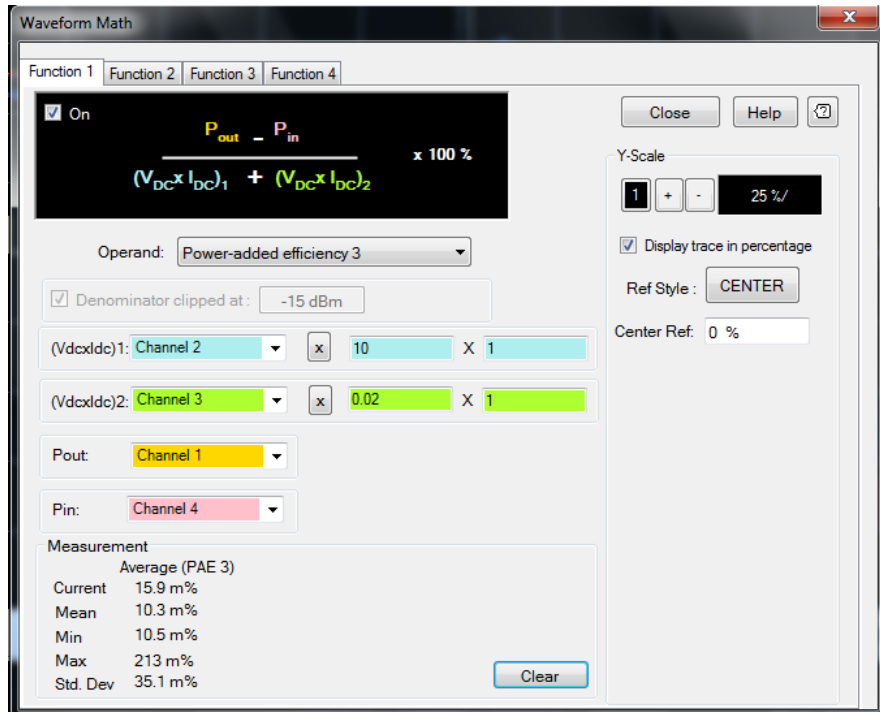

Figure 2-67 Power-added efficiency 3 with multiplication symbol (x)
- 1 Select **Power-added efficiency 3** at the Waveform Math dialog as shown in Figure 2-67.